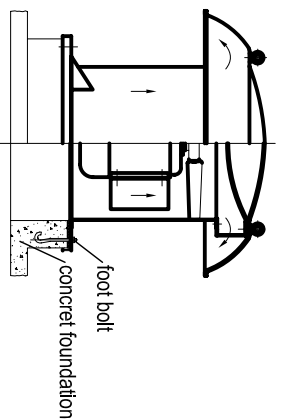

figure 1
- 7). Concret foundation installation can be adopted on flat roof (figure 1); Steel structure installation can be adopted on spire roof (sloping roof) (figure 2). To avoid air leaking out, thick rubber cushion can be filled up between fan base and installation base.